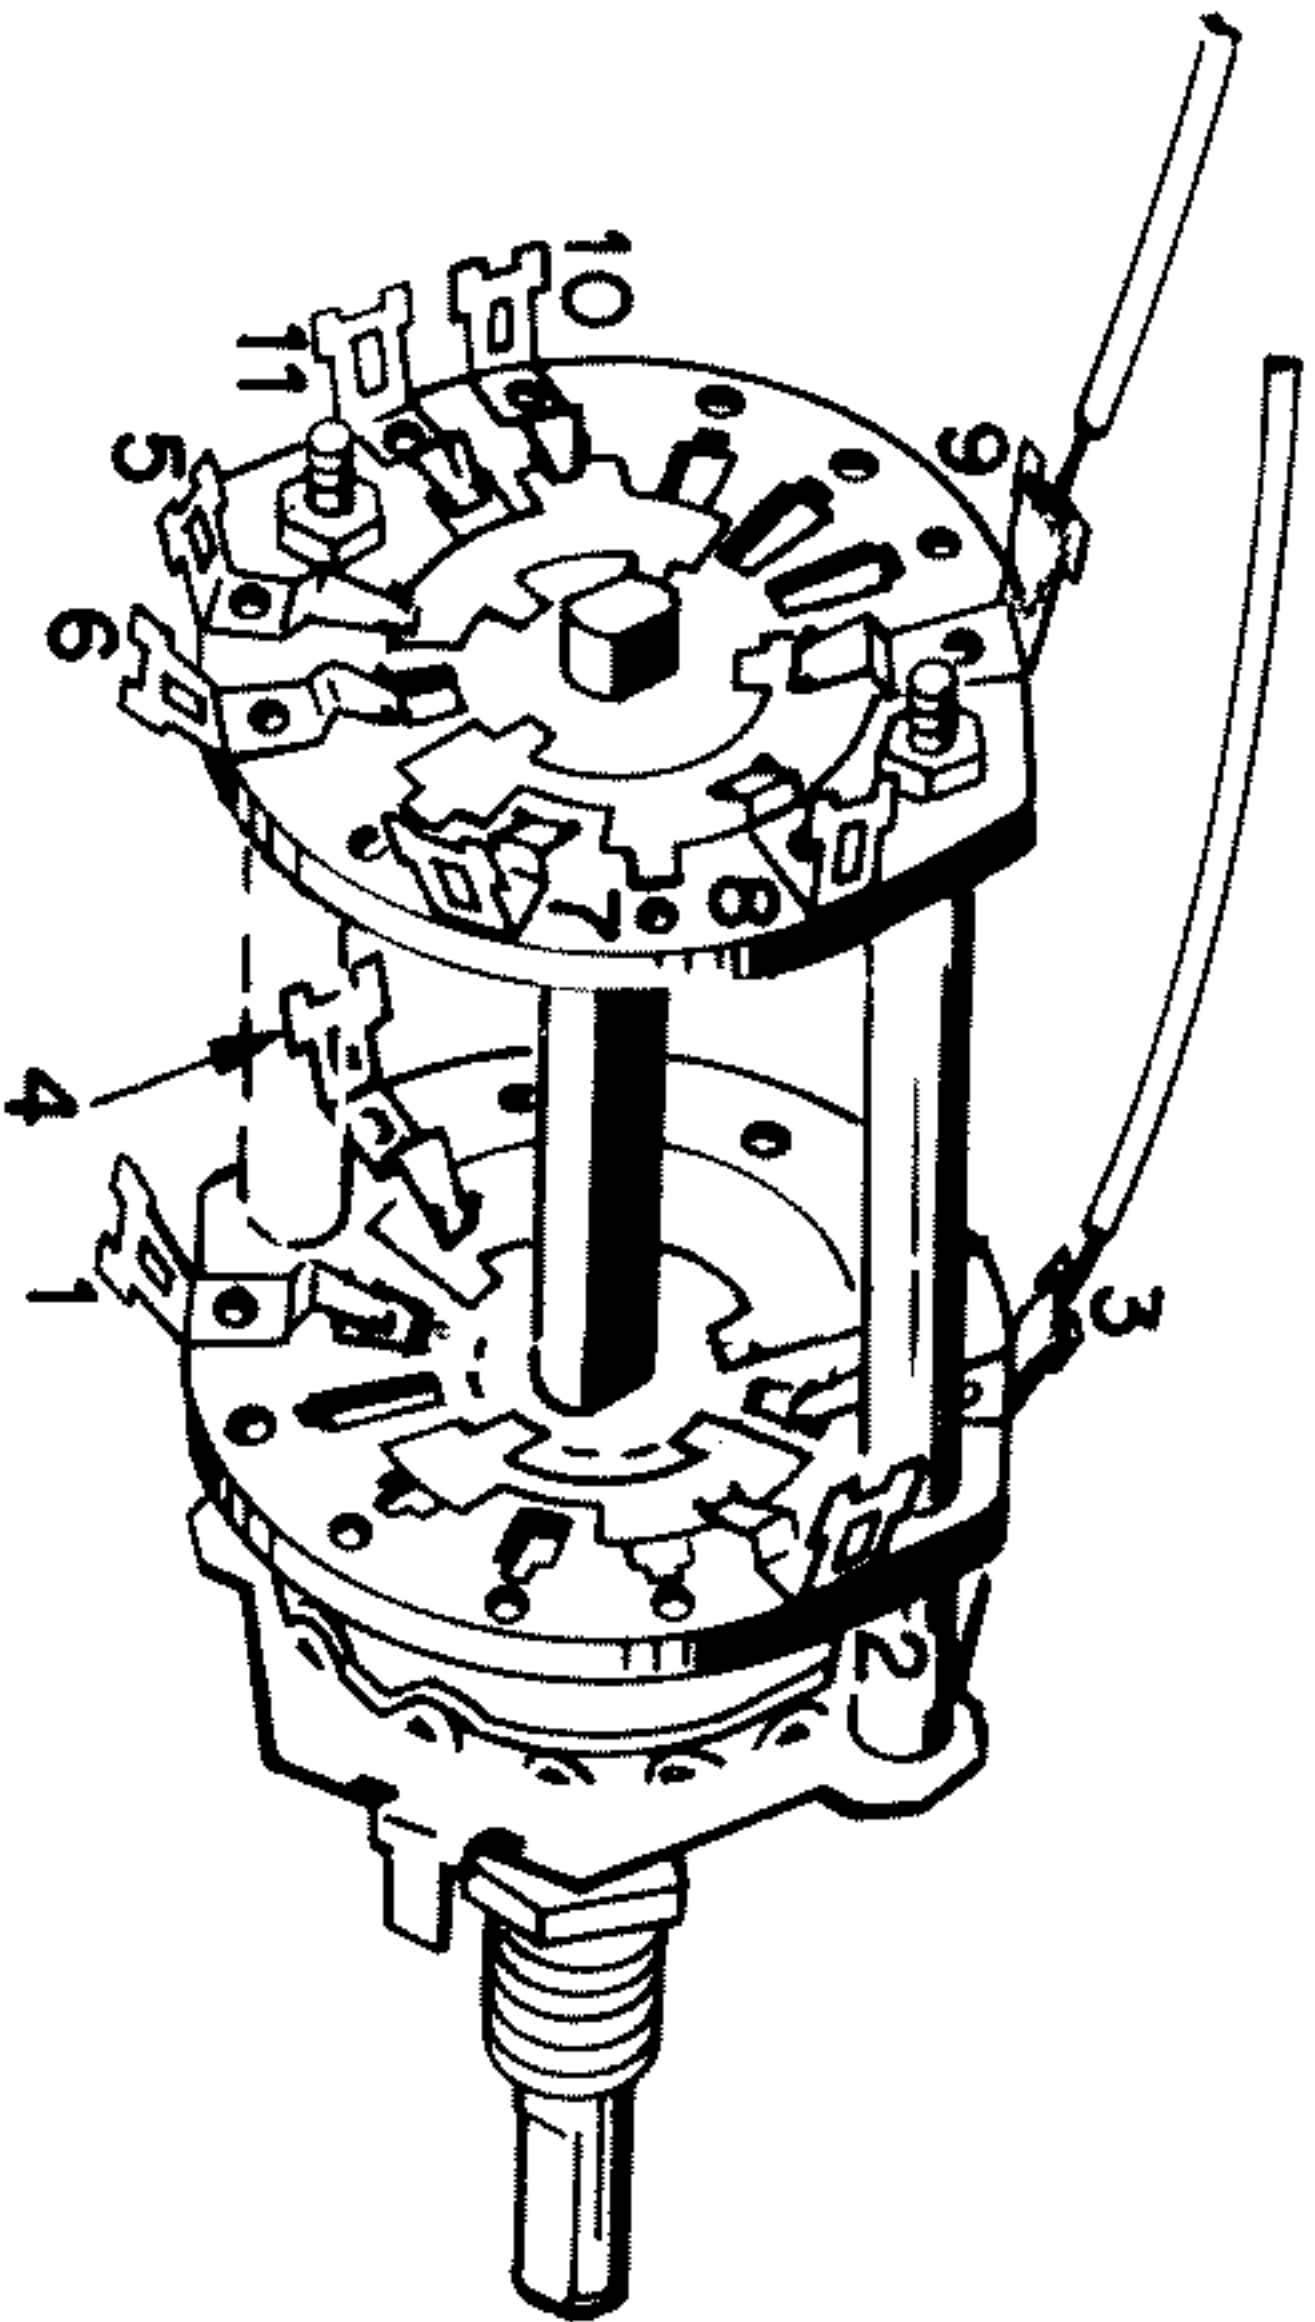

FIGURE 10
SEE FIGURE 10
- ☒ White wire with brown tracer. Solder one end to terminal 3 of TS-2 (3 wires). Route wire as shown under C30 to terminal 4 of SW2, and solder. See Figure 10 for location of terminal 4.